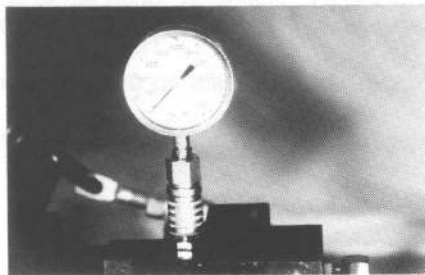

Figure 1-1
2. Using the proper fittings, install a pressure gauge as shown. See Figure 1-1.